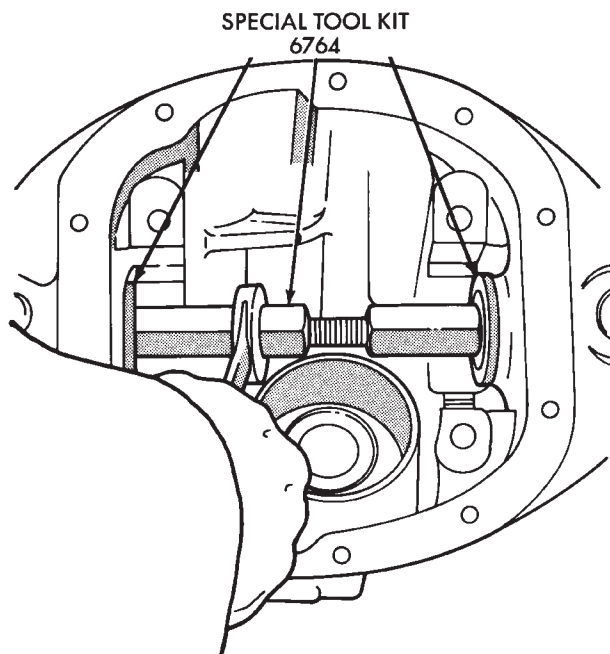

Fig. 19 Axle Seal Installation
(1) Remove the inner axle shaft seals with a pry bar.
(2) Install oil seals with Discs 6764 and Turnbuckle D-112A (Fig. 19). Tighten tool until disc bottoms in housing.